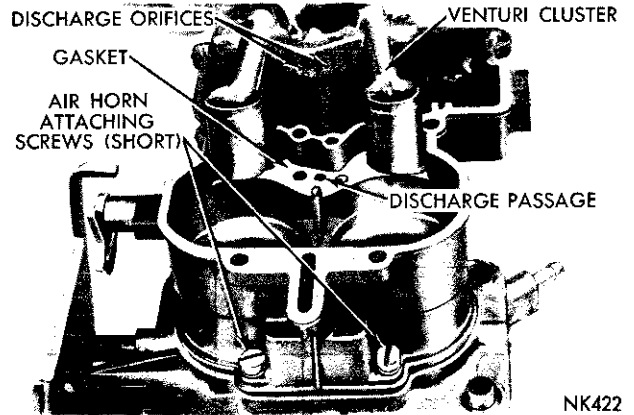

Fig. 6—Removing or Installing the Venturi Cluster
(1) Remove the float fulcrum pin spring, then remove the fuel inlet needle valve, seat and gasket.
(2) Slide the float baffle up out of its grooves, then remove the float and fulcrum pin.
(3) Remove the venturi cluster attaching screws, then remove the venturi cluster gasket, as shown in (Fig. 6). Discard the gasket.
(4) Invert the carburetor main body and drop out the discharge check ball from the discharge passage, refer to (Fig. 6), and the accelerator pump inlet check ball from the pump well.
(3) If any fuel does emit from either the intake or discharge passages, it indicates the presence of dirt or an imperfect seat. The passages should be re-cleaned and then thoroughly blown out with compressed air. Examine the ball seat for signs of damage that would not allow the check ball to seat properly.
(4) Reinstall the check ball and test again. If still leaking, place a piece of drill rod down on the check ball and rap sharply with a hammer. Remove the old check ball and install a new one. Then retest. (This operation forms a new ball seat in the carburetor casting.)
(5) Install the venturi cluster gasket, then slide the venturi cluster down into position. Install attaching screws and tighten securely. (Refer to Fig. 6.)